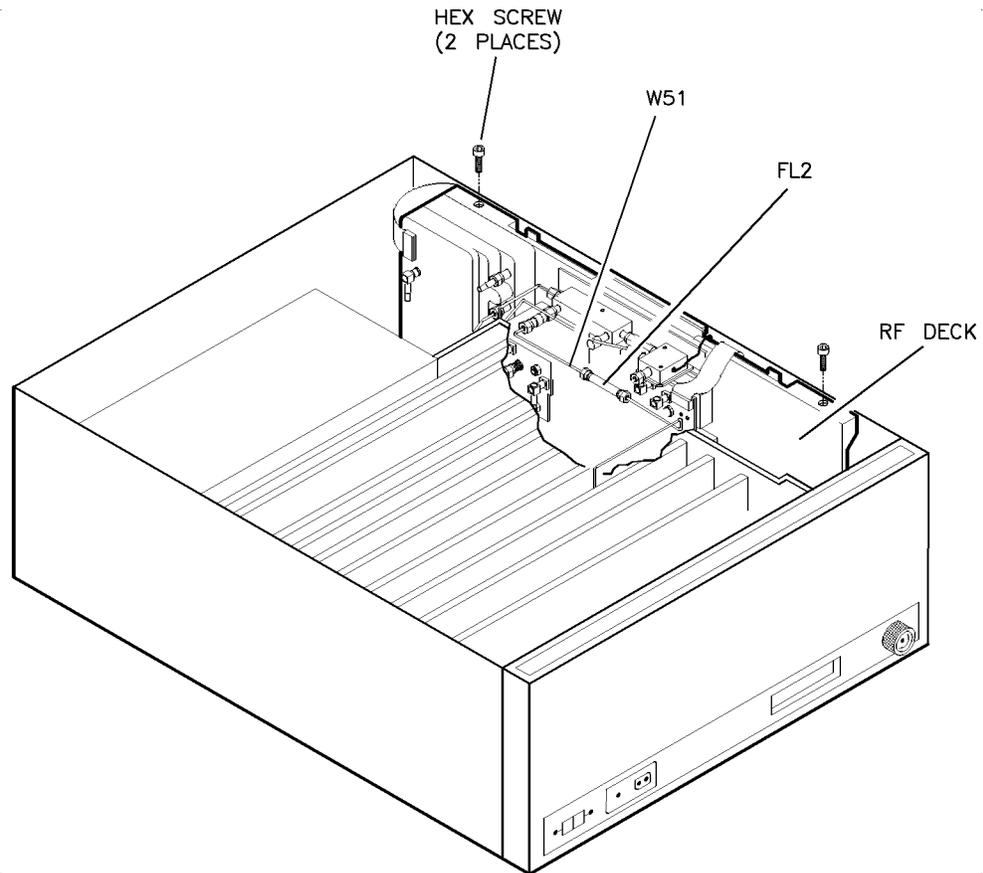

Figure 7-33. W51 RF Cable Location
6. Disconnect cable W51 (see Figure 7-33) from the low pass filter FL2 (you may need to loosen the other end of W51 also).